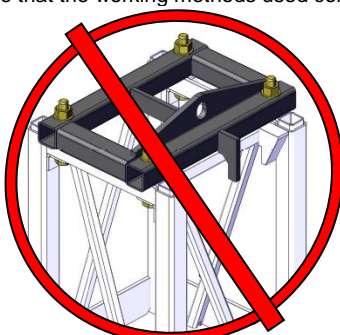

Figure 45 – Incompatibility between mast end section and lifting slings
- Mast end sections must be removed before positioning the lifting slings or belts (*Figure 45*).
- Lifting operations of up to **MAXIMUM** 15 000 lb (6 804 kg) may be carried out using lifting slings (*Figure 45*).
- The assemblies shall have an equivalent load distribution on both (2) sides of the mast's center of gravity.